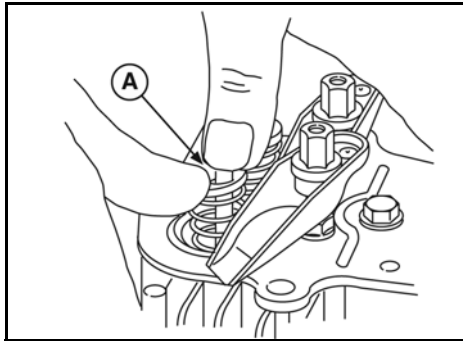

Figure 14
- Support valve side of cylinder head on clean shop rags. Place valve springs and valve spring retainers over valve stems. Using thumbs, press against each retainer until it securely locks into groove in valve stem (Figure 14).